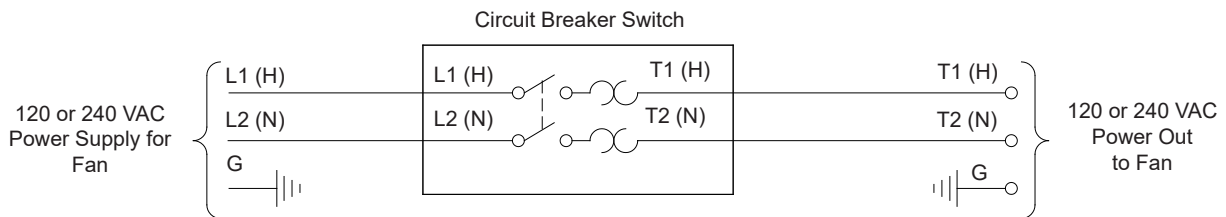

Figure 18A
**Single Phase Fans:** motor overload protection should be provided for each fan. A Circuit Breaker Switch or slow blow motor type fuses must be used, *See Figure 18A. See form QM1400 for proper size.*